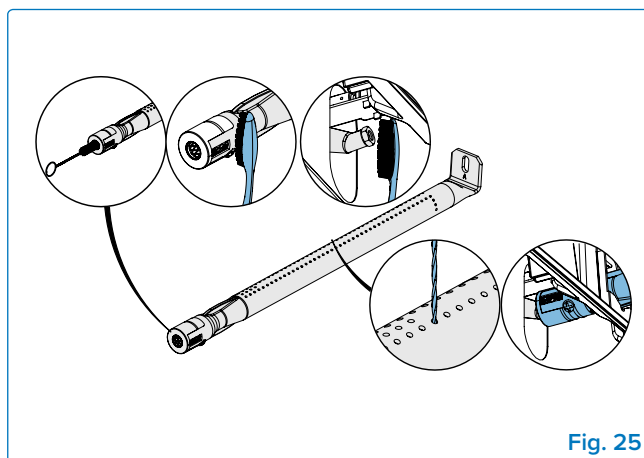

Fig. 25
- Clean the inside of the burner using a flexible venturi tube brush or, for delicate areas, a soft bristled brush to gently remove debris (**Fig 25**).